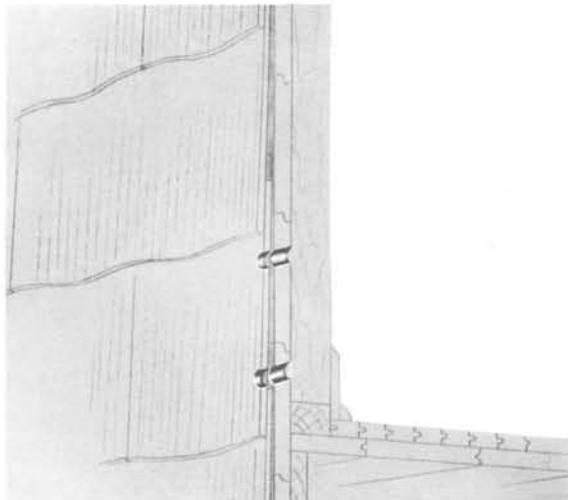

Fig. 4 – Entrance Through Composition Shingles
- Locate hole as shown in Fig. 4 so as to avoid drilling through two shingles.